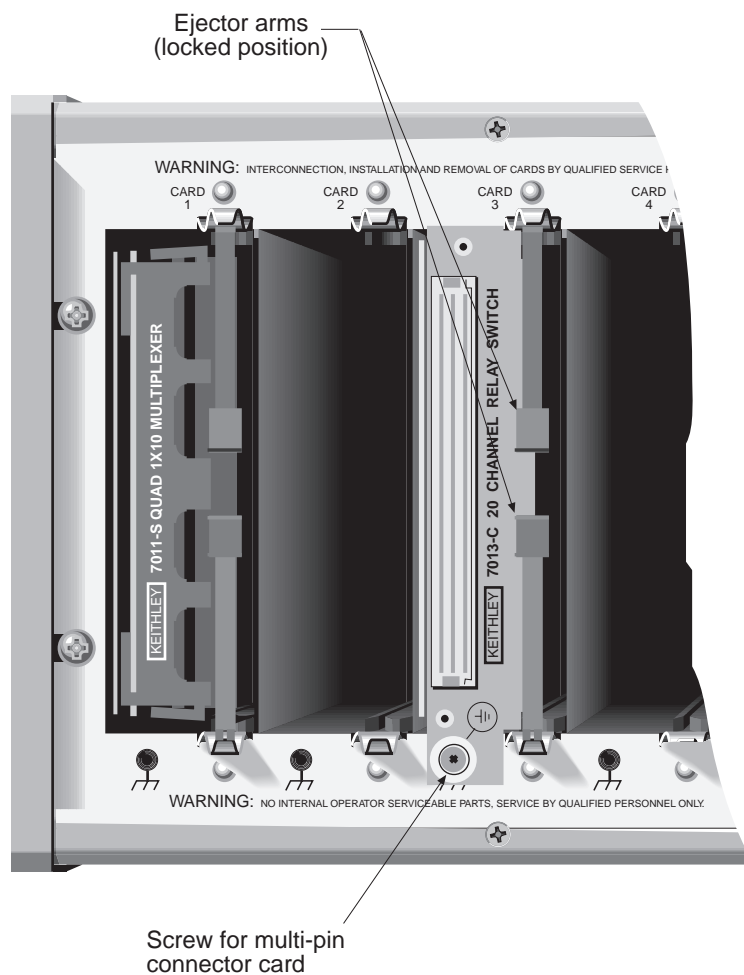

Figure 2-1
3. Referring to Figure 2-1, feed the card assembly into the desired slot such that the edges of the relay card ride in the rails.
5. For the multi-pin connector card, tighten the screw shown in Figure 2-1.
2. Using Figure 2-1 as a guideline, feed the card into the desired slot such that the edges of the card ride in the rails.